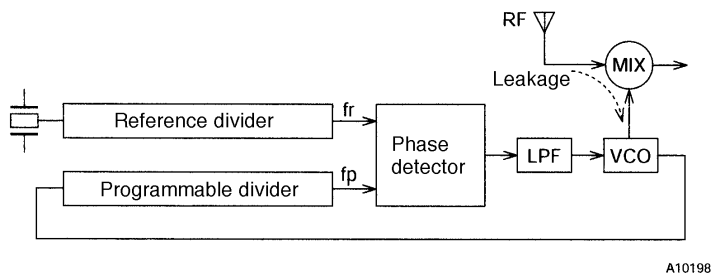
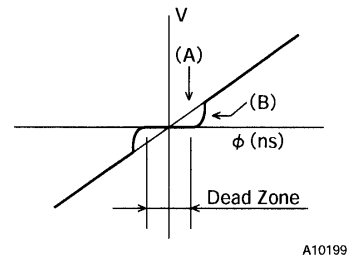

Figure 1
Figure 2
As shown in figure 1, the phase comparator compares a reference frequency (f_r) with f_p . As shown in figure 2, the phase comparator's characteristics consist of an output voltage (V) that is proportional to the phase difference ϕ . However, due to internal circuit delay and other factors, an actual circuit has a region (the dead zone, B) where the circuit cannot actually compare the phases. To implement a receiver with a high S/N ratio, it is desirable that this region be as small as possible. However, it is often desirable to have the dead zone be slightly wider in popularly-priced models. This is because in certain cases, such as when there is a strong RF input, popularly-priced models can suffer from mixer to VCO RF leakage that modulates the VCO. When the dead zone is small, the circuit outputs signals to correct this modulation and this output further modulates the VCO. This further modulation may then generate beats with the RF signal.